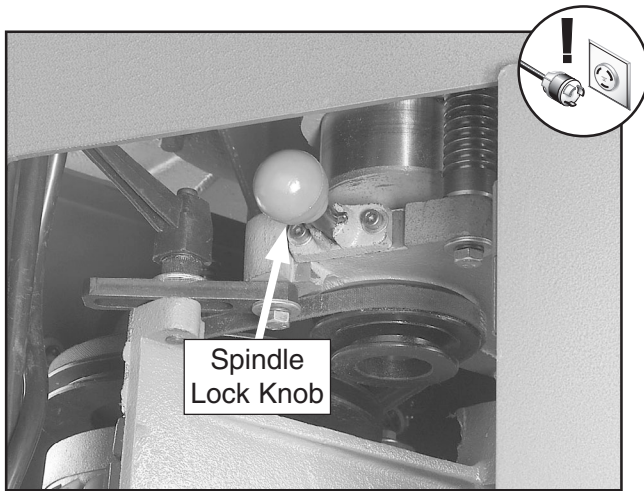

Figure 25. Spindle lock knob.
3. To keep the spindle from rotating during the following steps, open the cabinet door and pull the spindle lock knob out, then rotate it clockwise until it slips into the deeper of the two detents and the spindle no longer rotates by hand (see **Figure 25**).